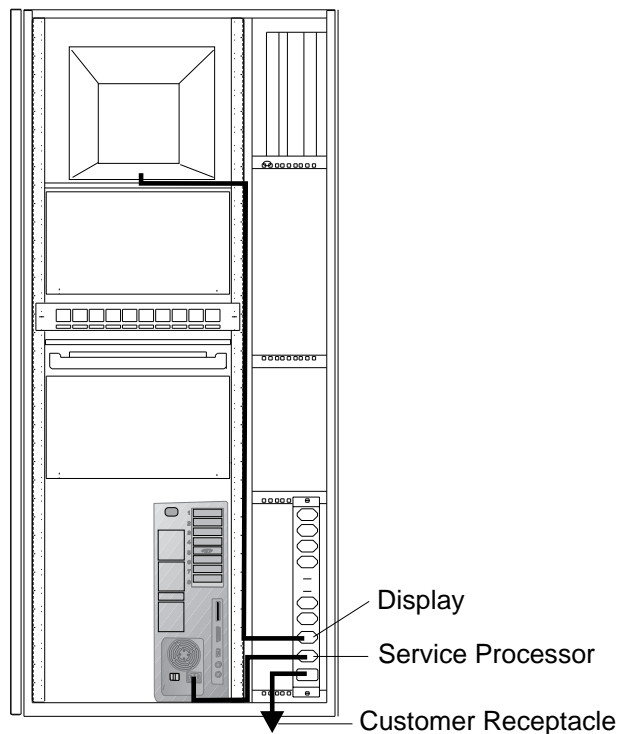

Figure 1-61. Power Cords Connection to an ac Outlet Distribution Box
- The ac outlet distribution box plugs if you **install** the service processor unit in a controller expansion (refer to Figure 1-61 on page 1-56).
15. ____ Route and connect the power cords (PN 58G5783) from the display and the service processor unit to the ac outlet distribution box as shown in Figure 1-61. Secure these cables using tie clamps along the frame, then go to step 17 on page 1-57.